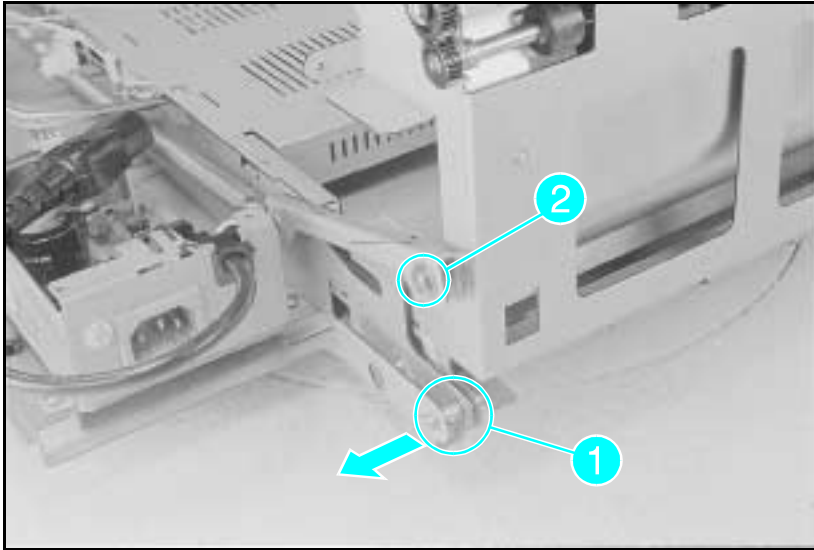

Figure A-23 **Switchback Assembly Hinge Pins**
- 1** Pull out the pin located on the Power PCA side (see Figure A-23, callout 1).
- 2** Release the (1) E-clip on the upper pin near the retaining arm (see Figure A-23, callout 2).